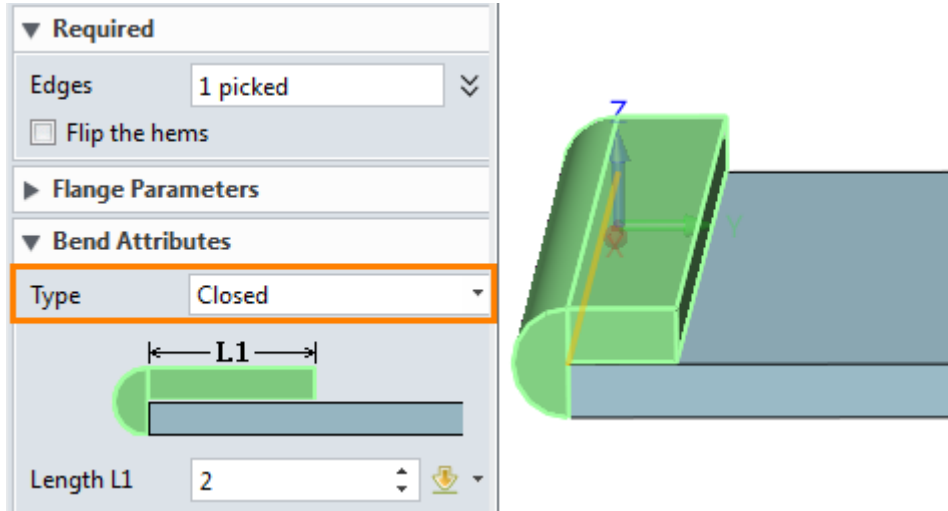

Figure21 Hem Flange
STEP 02 Choose Hem Flange to create hem flange as shown in Figure 21.